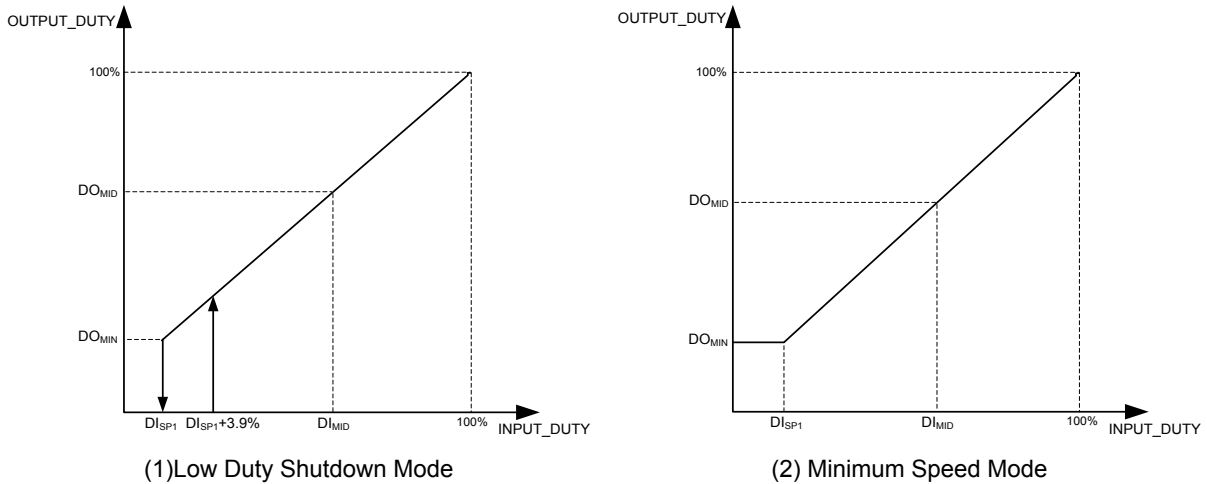

Figure1: Multi Mode Output Duty Control Curve
The APX9178 has two types PWM speed control curve, it select by SP1 pin voltage setting. The first type of PWM speed control curve (See Figure1: Multi Mode Output Duty Control Curve), it can set up low duty shutdown mode or minimum speed mode by VREF pin output current (I_{VREF}) decision and the SP1 pin set up range is GND to $V_{REF}-0.3V$. In this type (1), when PWM input duty is less than DI_{SP1} , the output will close. Until PWM input duty is rising more than $DI_{SP1}+3.9%$, the output will startup.